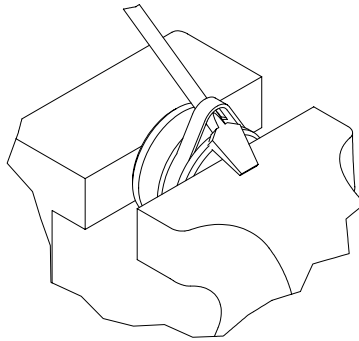

Figure 5-39, Seal Removal
6. Carefully pry up on the piston seals using a blunt tip screwdriver being careful not to scratch the seal grooves. Cut the seals to remove them from the piston. (Figure 5-39)